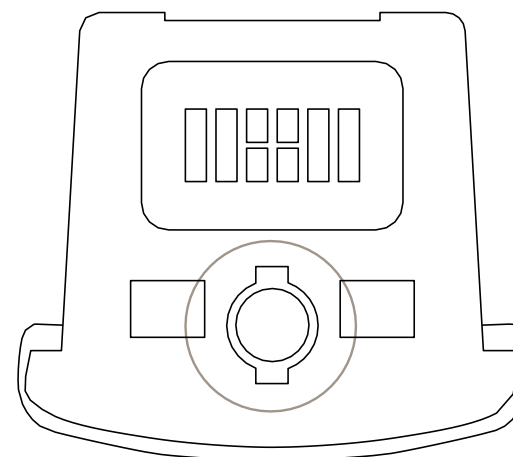

FIG. 13
3. Connect the supplied battery charger to the appropriate connector (FIG. 13);